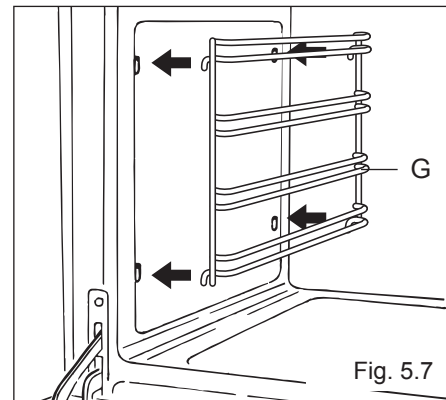

Fig. 5.7
- Hang up the wire racks “G” on the oven walls (fig. 5.7).